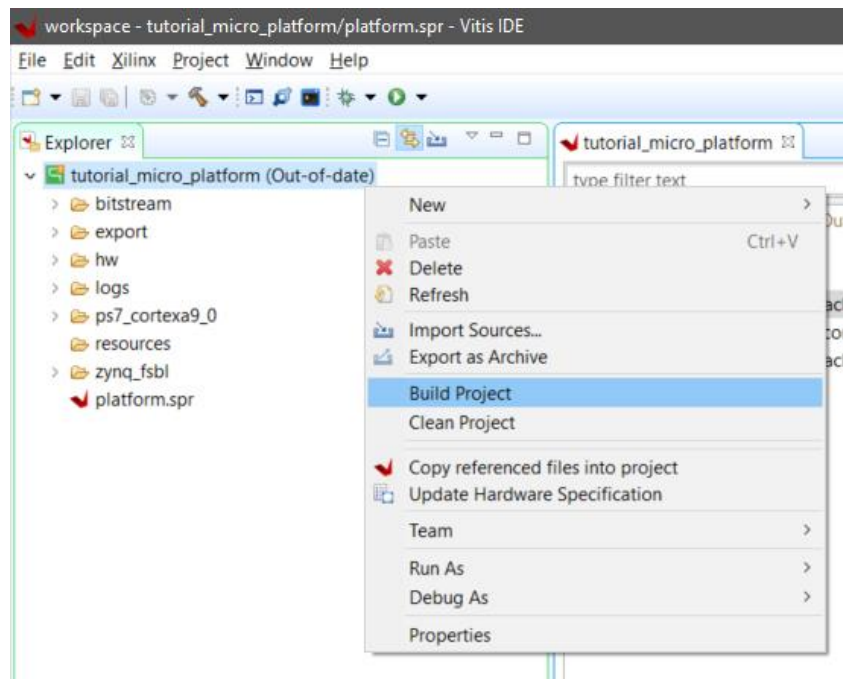

Figure 25
9. To generate the platform, right-click the platform project **tutorial_micro_platform (Out-of-date)** and select **Build Project** (Figure 25)